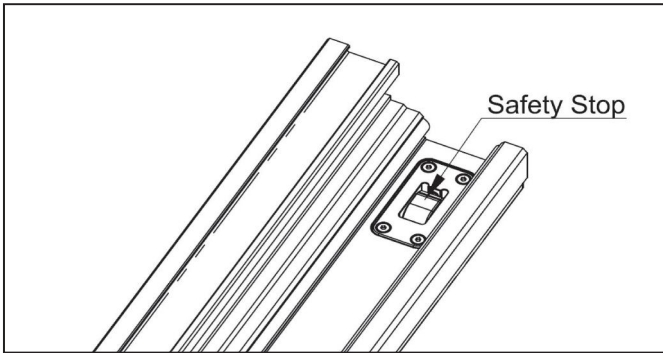
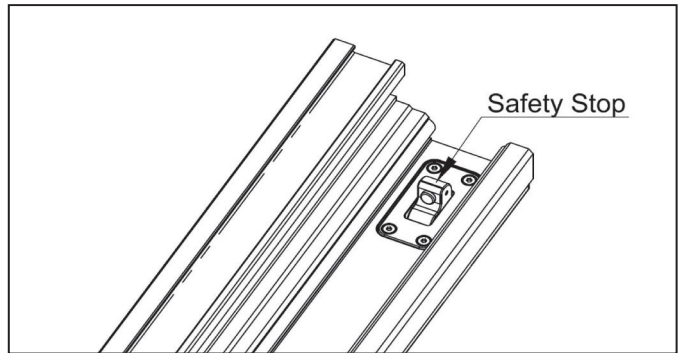

Fig. 6-20
Fig. 6-21
Note: Prior to Fence Assembly (C) installation, depress the Safety Stop on the front guide rail (one on each end) as depicted in Fig. 6-20. After installation, remember to release the Safety Stop to prevent the fence from accidentally sliding off the guide rail, illustrated in Fig. 6-21.